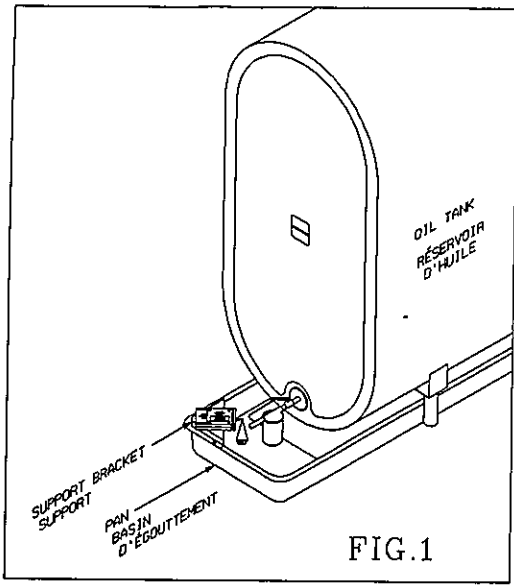

FIG. 1
3. If enough room exists slide tray from one end between the legs until the tray sticks out through to the other end under the filter area. See figure 1.